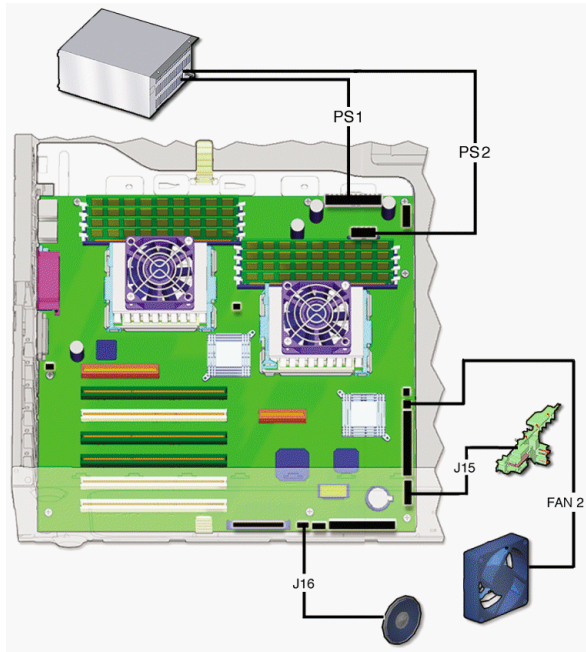

FIGURE 11-36 Disconnecting Power Cables
8. Disconnect the power cables (FIGURE 11-36).